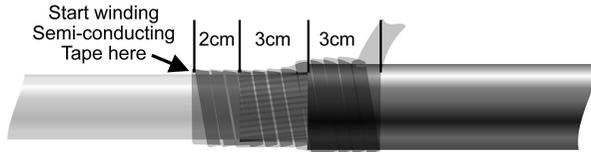

Figure 28.
- Using the Semi-Conductive Tape provided, starting 2cm in front of the end of the Outer Copper Screen Wires (or 5cm in front of the Black PVC Outer Sheath), stretch and wrap the tape back over the wires and 3cm over the Black PVC with 50% overlap, securing the Outer Copper Screen Wires in place. This should use approx 50cm of the tape. (Figure 28)